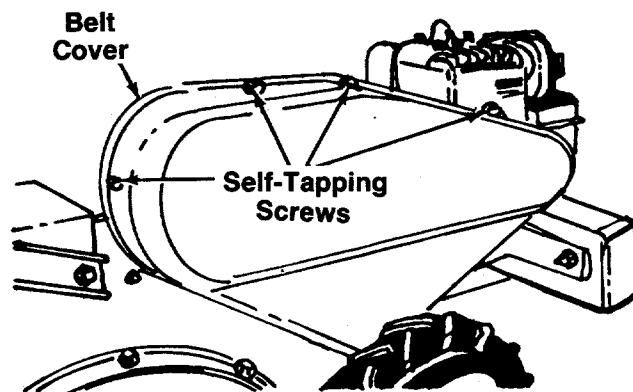

FIGURE 20.
1. Remove belt cover by removing the four self-tapping screws. See figure 20.